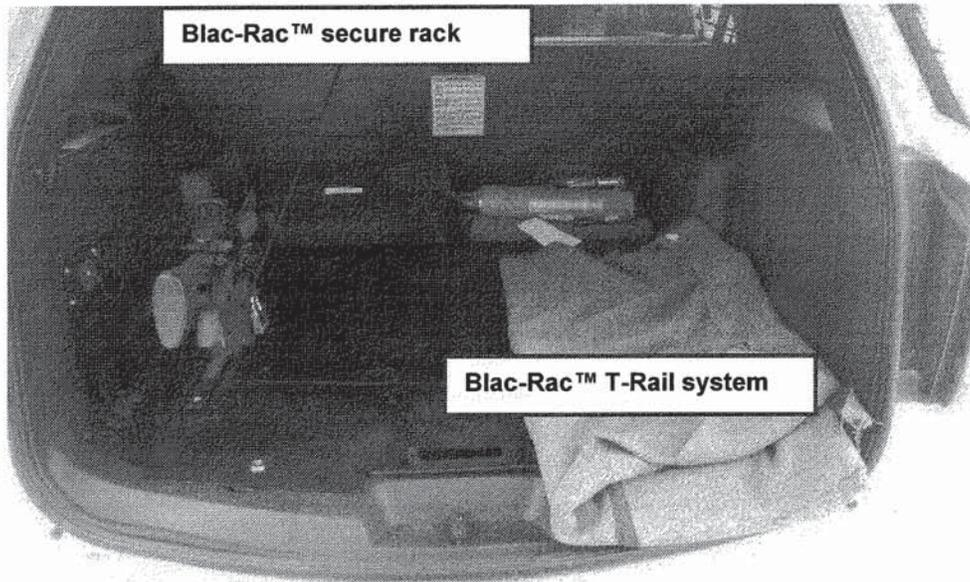

Figure 30 - D&R Electronics® - Electronics Sub Panel Mount with PCVSS installation
47. Only a secure rack ***shall*** be used to secure carbines within Ford Police Interceptor Utility marked MP vehicle. The approved secure racks consist of a mounting system that securely clamps around the barrel, front hand guard, or other portion of the carbine. These racks ***shall*** prevent the carbine from being removed by disassembling the upper and lower end receivers and should also securely cover the trigger and magazine release buttons. Approved racks ***shall*** be located inside the vehicle trunk and secured horizontally on the electronics sub panel mount lid (see *Figures 30 and 31*). The rack and the T-Rail ***shall*** be fastened in a tamper-resistant manner (tamper-proof bolt and nuts).